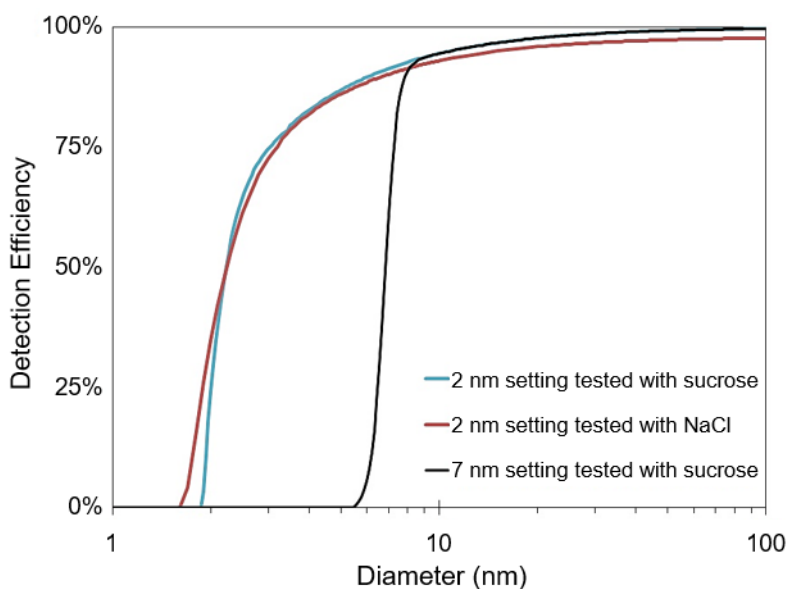

Figure 2: CPC Model 3789 counting efficiency curves using a variety of monodisperse aerosols and an electrometer as the reference detector.
- **Minimum Detectable Particle Size**—The minimum detectable particle diameter of a CPC can be described with a detection efficiency curve where the CPC counting efficiency versus a standard is plotted as a function of particle diameter (Figure 2). A steeper curve is generally preferred, so the counting range of the CPC can be more precisely defined. The minimum detectable particle size is commonly defined as the diameter at which 50% of the particles are detected by the counter (D_{50}). Typically, a lower detectable particle size is associated with a more complex instrument. The primary factors affecting the D_{50} are: